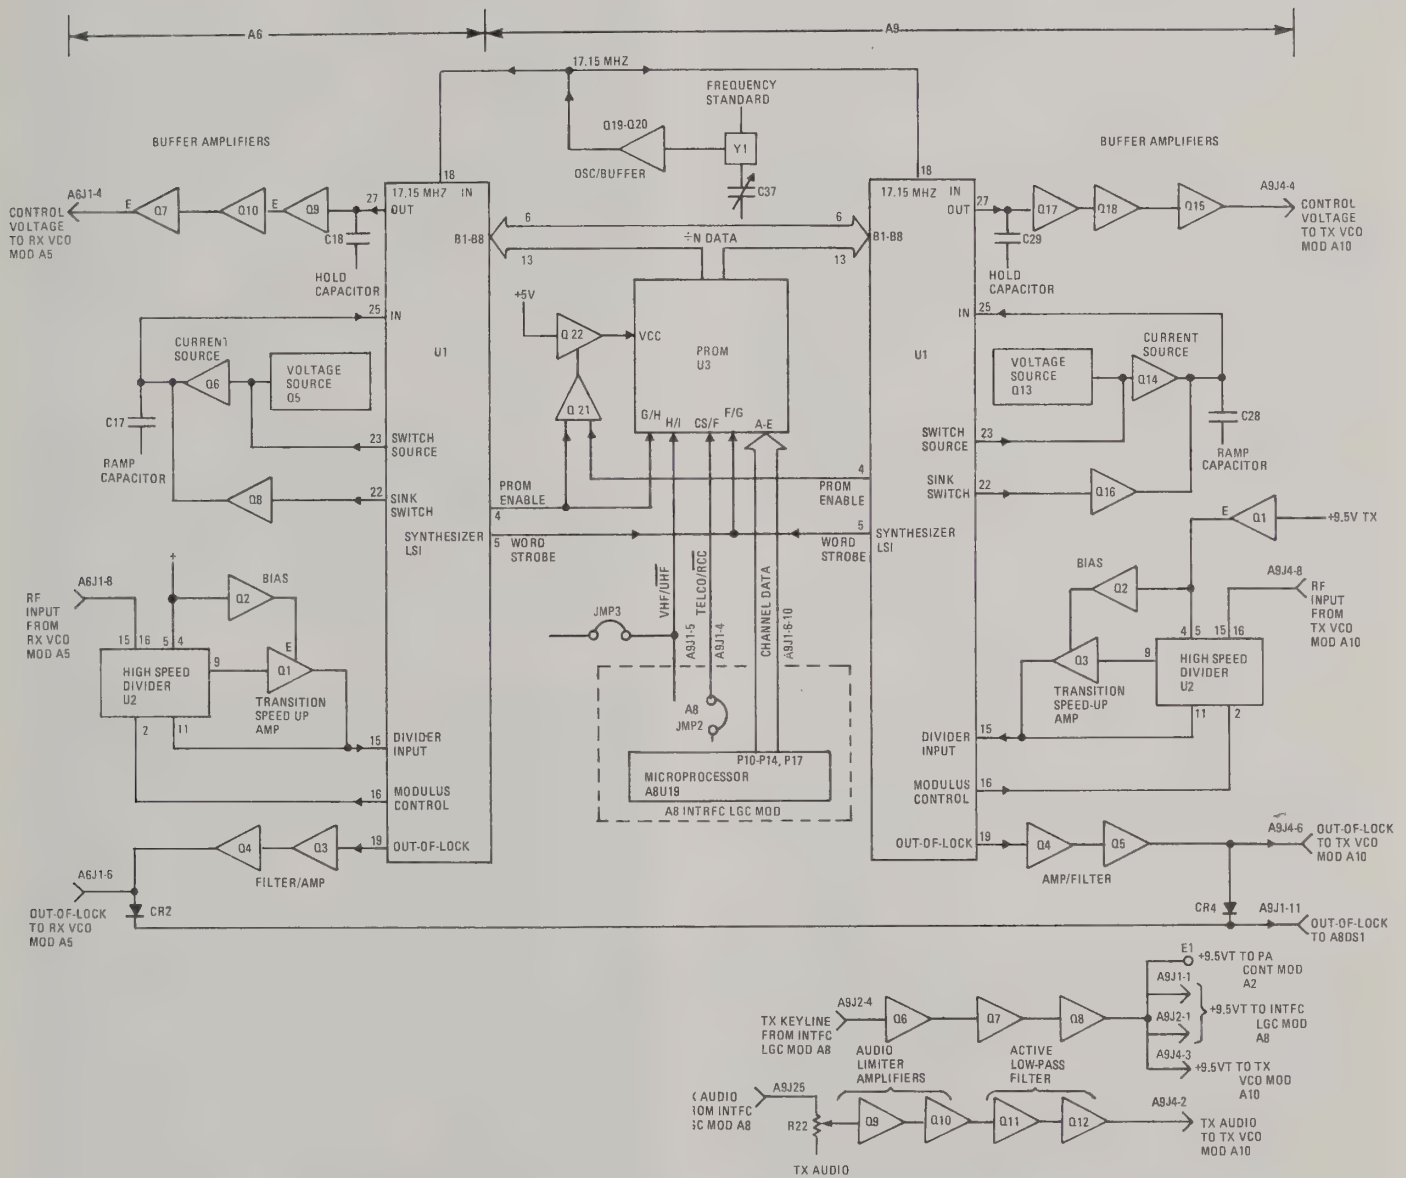

Figure 1. Master/Slave Synthesizer Logic Module, Simplified Diagram
1.01 The major Master/Slave Synthesizer Logic Module functions are shown in the tab section cover diagram and in figure 1. Both Master Synthesizer Logic Module A9 and Slave Synthesizer Logic Module A6 perform three similar functions in the transmit and receive portions of the Transceiver. These functions are Prescaling, Out-of-Lock generation, and Sample and Hold.